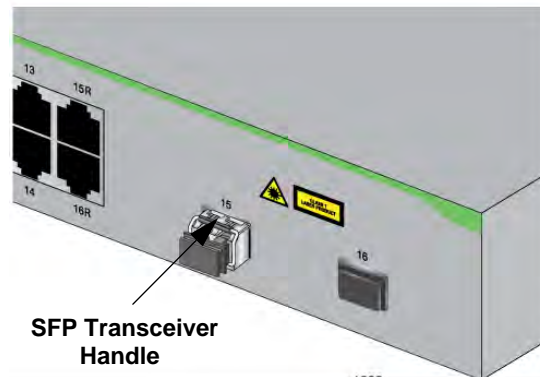

Figure 14. SFP Handle in Upright Position
- Verify that the handle on the transceiver is in the upright position, as shown in Figure 14. This secures the transceiver and prevents it from being dislodged from the slot.